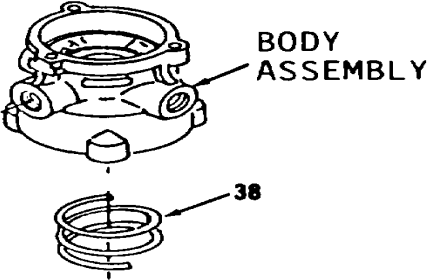

Figure 6-41.
- 17. Remove spring (38, Figure 6-41) from body assembly.